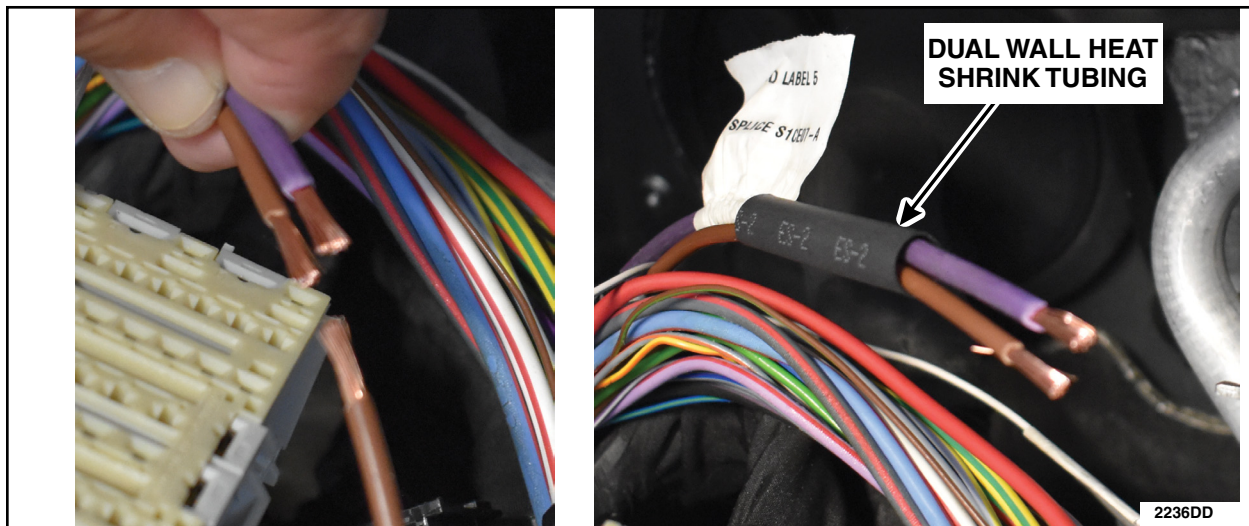

FIGURE 36
41. Strip 1" of insulation from the violet wire, brown wire, and terminal end. Put dual wall heat shrink tubing over brown and violet wires. See Figure 36.